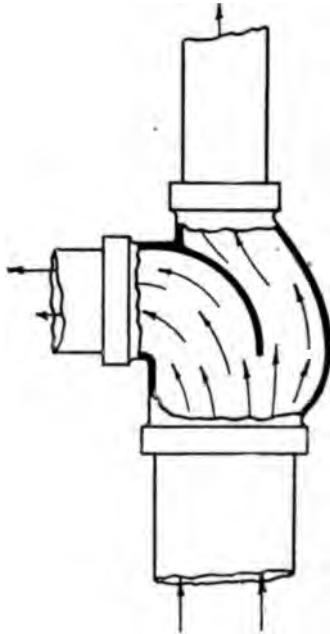
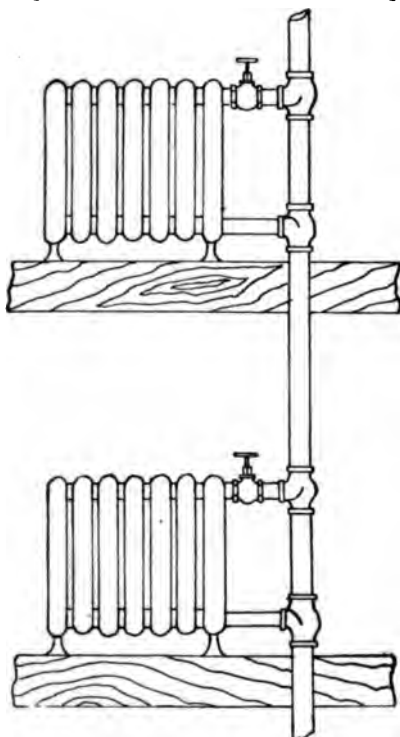

Fig. 58.—The O S Fitting.
Fig. 59.—O S Fittings Used on Drop Supply Risers.
A. Fig. 58 shows the character of the fitting. It is particularly serviceable for use on risers to divide the flow between the various floors and saves extra elbows and nipples in making such connections. It is also employed to good advantage on the drop risers of an overhead system. Fig. 59 shows its application.